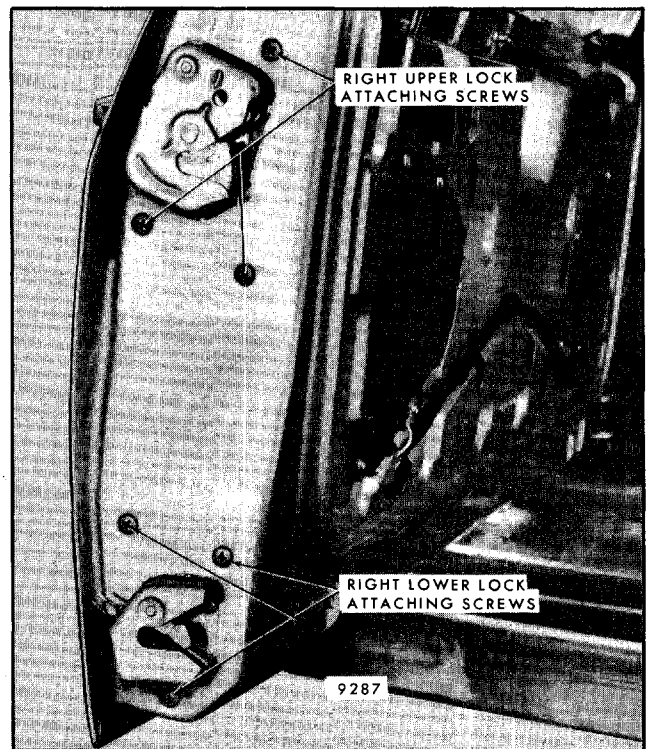

Fig. 7-145 - Tailgate Right Upper and Lower Lock Attaching Screws
4. Remove three gate to lock attaching screws and remove lock through access hole, Figure 7-145.
1. With tailgate open in the door position, install three screws securing lock to tailgate, Figure 7-145. Torque to 9 to 11 N·m (80 to 100 in-lb).
3. Remove three gate to lock attaching screws, Figure 7-145, and remove lock assembly through access hole.